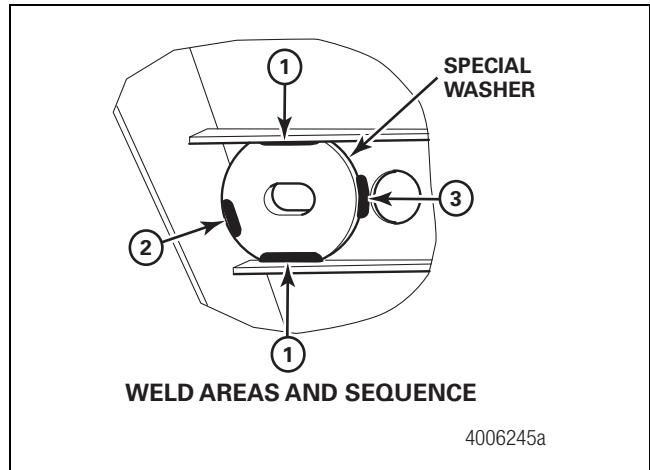
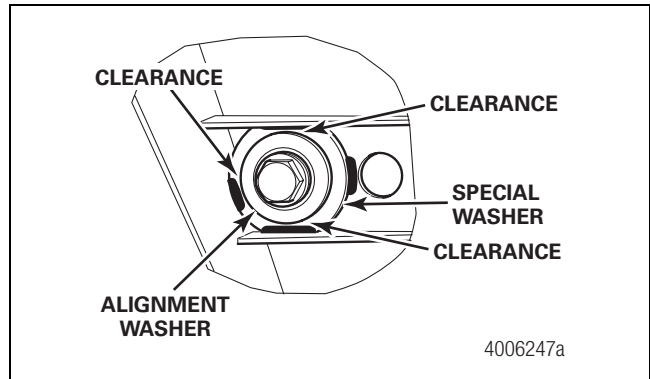
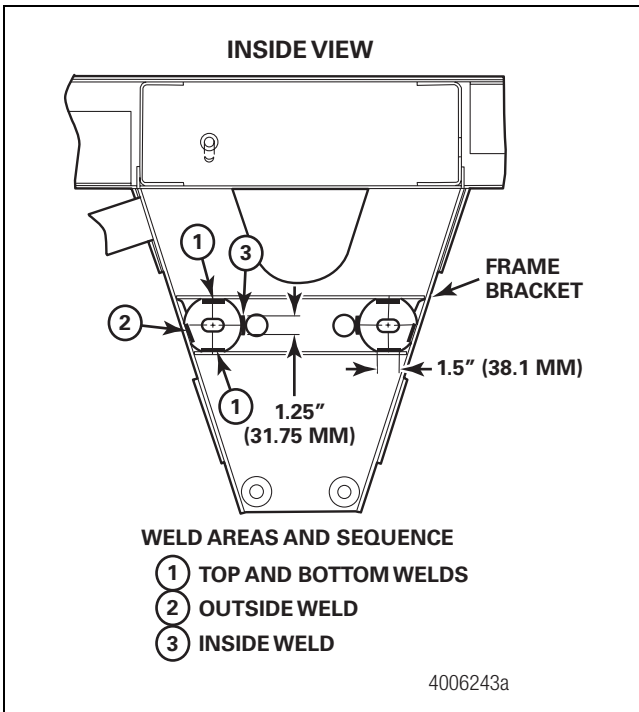

Figure 23
Figure 24
Figure 22
11. Weld the washer along the bottom and top with a 0.25-inch weld. Weld the area that is contacting the gusset plate with a 0.25-inch weld. Place a 1.25-inch weld midpoint at the washer radius and the channel. Figure 22 and Figure 23. It is important not to make the top, bottom and gusset welds too large, or they will interfere with the alignment washer. Figure 24.